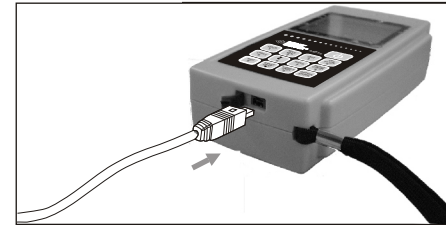

Figure 7
- 4). Insert one end of the connecting cable into the USB interface of the top anemometer host, as shown in figure 7: